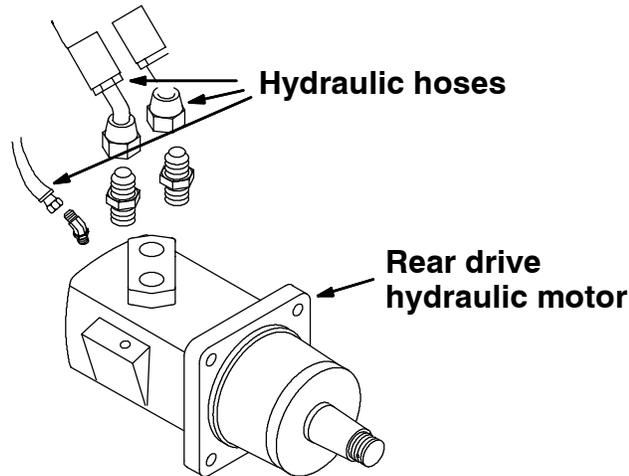

FIG. 4 - Drive Motor Hydraulic Hoses
10. Mark, remove and plug the hydraulic hoses leading to the drive motor. (Refer to FIG. 4)